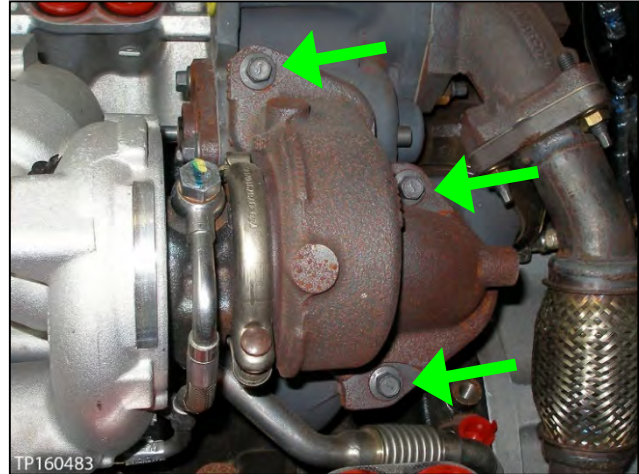

Figure 44
30. Unbolt the high pressure turbocharger from the low pressure turbocharger (see Figure 44).